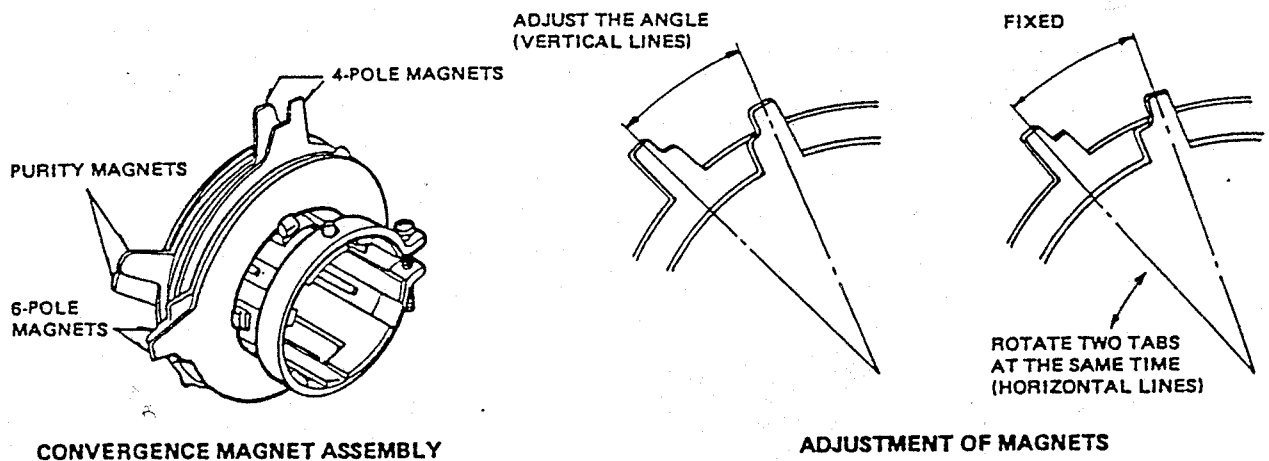
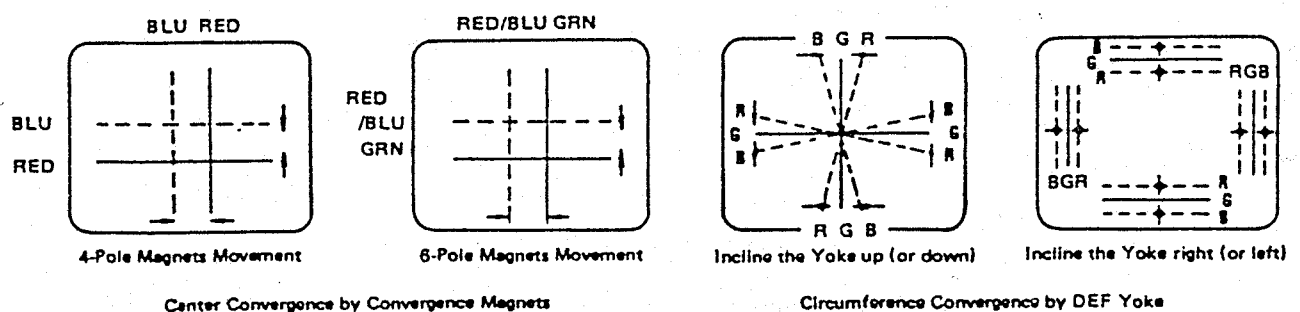

Fig. 21.
Fig. 22. Dot Movement Pattern
- (c) Adjust two tabs of the 4 Pole Magnets to change the angle between them (see Fig. 21.) and superimpose red and blue vertical lines in the centre area of the picture screen. (See Fig. 22.)
- (d) Turn both tabs of the 4 Pole Magnets to change the angle to superimpose red and blue horizontal lines at the centre of screen (See Fig. 21.)
- (e) Tilt front of the yoke right or left obtain better convergence in circumference. (See Fig. 22.)
- (f) Rotate and spread the tabs of the purity magnet (see Fig.21.) around the neck of the picture tube until the green belt is in centre of the screen. At the same time, centre the raster vertically.